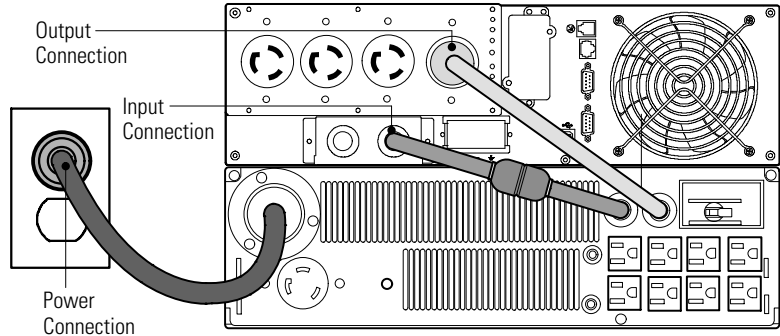

Figure 13. PPDM and 9135 UPS Connections
3. Plug the input and output cords of the PPDM into the input and output power connectors on the UPS power cables (see Figure 13).
5. Disconnect the PDM input and output cords from the UPS (see Figure 13 on page 29).
2. Plug the input and output cords of the PPDM into the input and output power connectors on the UPS (see Figure 13 on page 29).